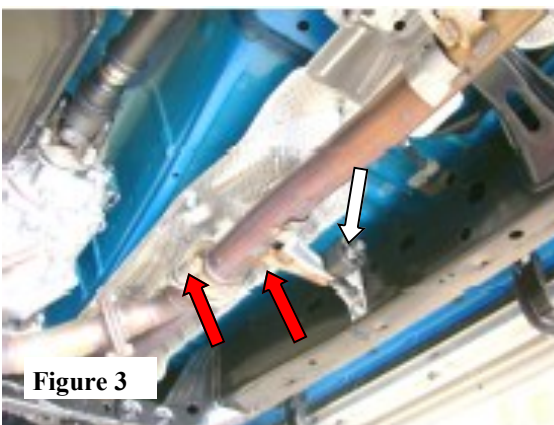

Figure 3
3. Use a muffler stand or an additional person to hold the center muffler into position. Remove (2) bolts from flange in front of the muffler (See Fig.3).